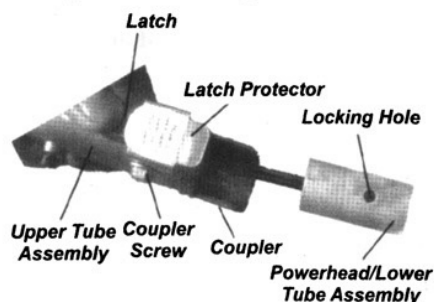

Figure 12
3. Depress the latch and insert the powerhead/lower tube assembly into the coupler until it bottoms. Release the latch. Rock the upper tube assembly back and forth until you are sure it snaps in place by the coupler lock. See Figure 12.